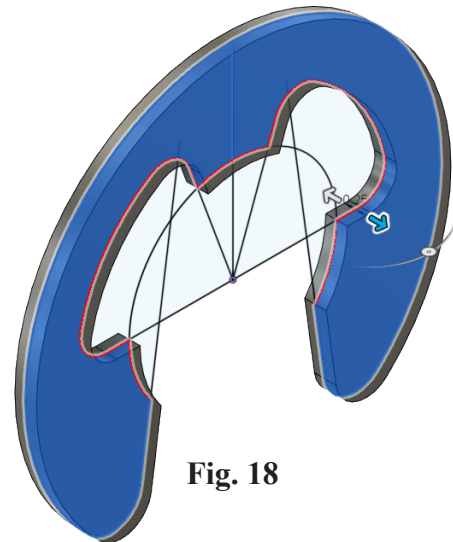

Fig. 18
Step 2. Click **Center Diameter Circle**  (C) in toolbar.
Step 3. Sketch **three circles** at the Origin , Fig. 18.
Step 4. Click **Dimension**  (D) on the toolbar.